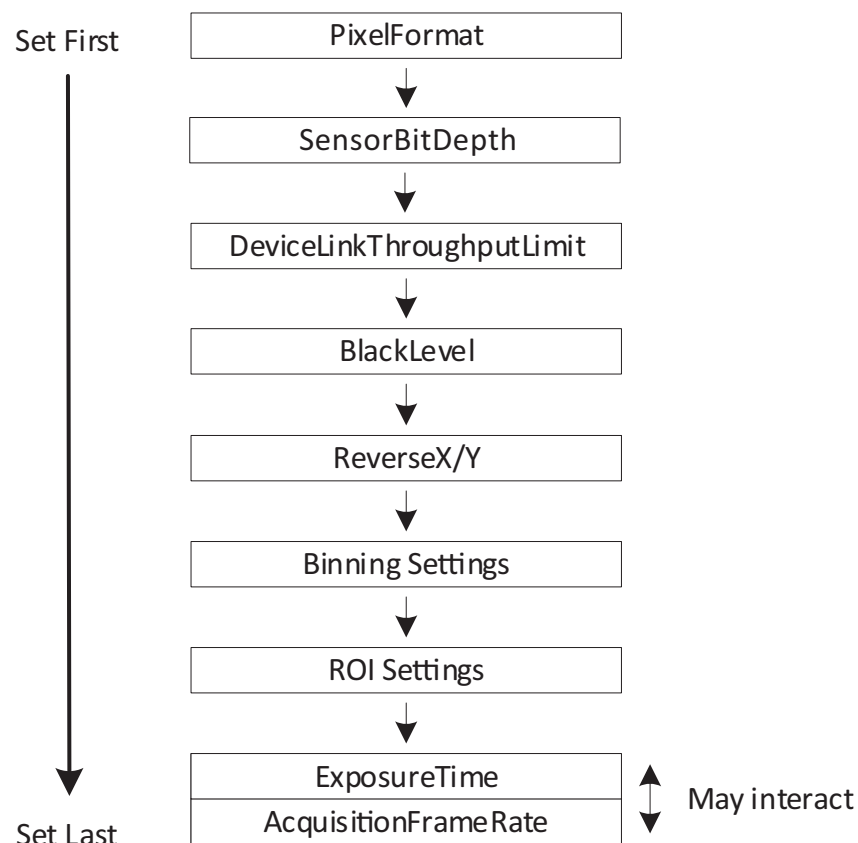

Figure 92: Interdependencies between features
The conversion between time and clock cycles affects control values. Features for pixel format, bandwidth, ROI, exposure time, and triggering are related to each other. Changing values for one feature can change values for another feature. For example, frame rates can be reduced when **PixelFormat** is changed subsequently. Figure 92 shows the interdependencies.
- To avoid readjustments, apply settings in the order shown in Figure 92.